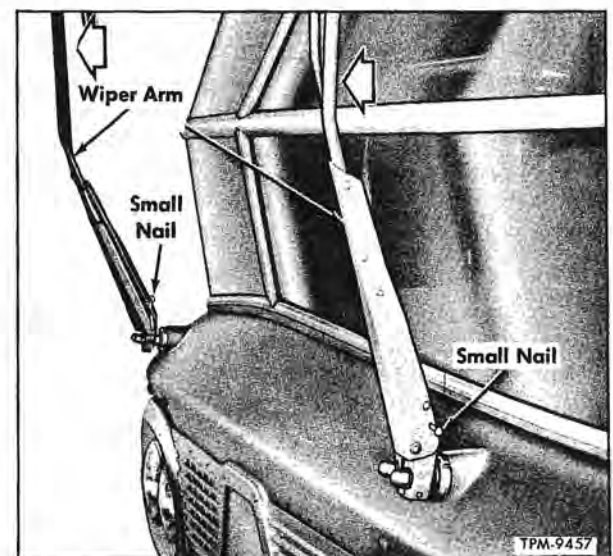

Figure 14—Windshield Wiper Arms Retained From Glass (Typical)
Operation of wipers can be checked without wetting windshield glass by inserting a small nail into holes at base of each wiper arm after pulling arms forward (fig. 14). This will retain blades from contacting glass.
3. Reinstall arm on pivot shaft. Force arm and blade across wetted glass or retain arms outward with nail (fig. 14) and check angle of blade.
4. Operate wiper on wetted glass or with arms extended and blocked forward (fig. 14). Check sweep and blade angle. If necessary, reposition arm on shaft and make blade angle adjustment as explained previously. Tighten crown nuts firmly after making adjustment.